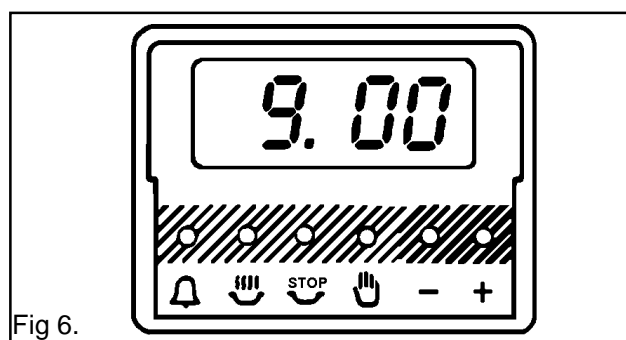

Fig 6.
- i) Ensure the electricity supply is switched ON and that the correct time of day is displayed, e.g. 9 a.m. as Fig. 6.